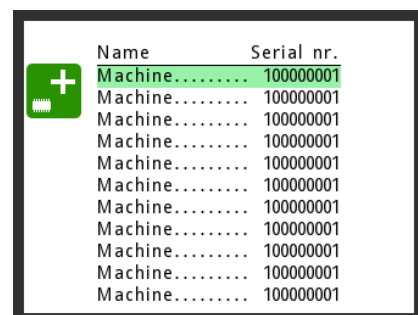

Figure 6-18 Back-up
2. Select the required machine (Figure 6-18)